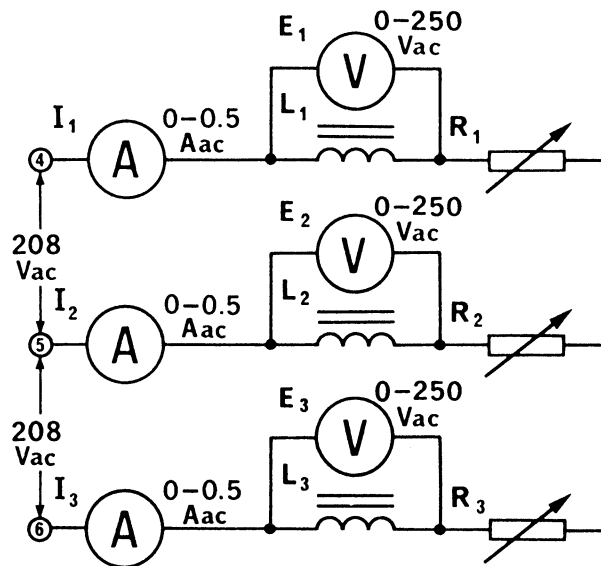

Figure 46-2.
2. a. Using your Resistive Load add a resistance section in series with each of the inductive loads as shown in Figure 46-2. Do not connect the neutral of the resistance module to the neutral of the power supply.